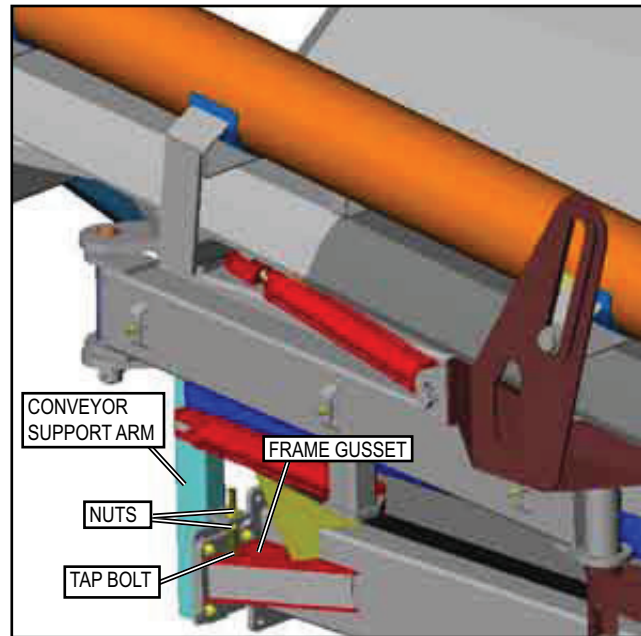

Figure 11.44 - Conveyor Support Arm
Use the procedure listed below when removing the PDM Plus metering augers. Refer to *Figure 11.44*.
1. Adjust the nuts shown in *Figure 11.44* by the desired amount.